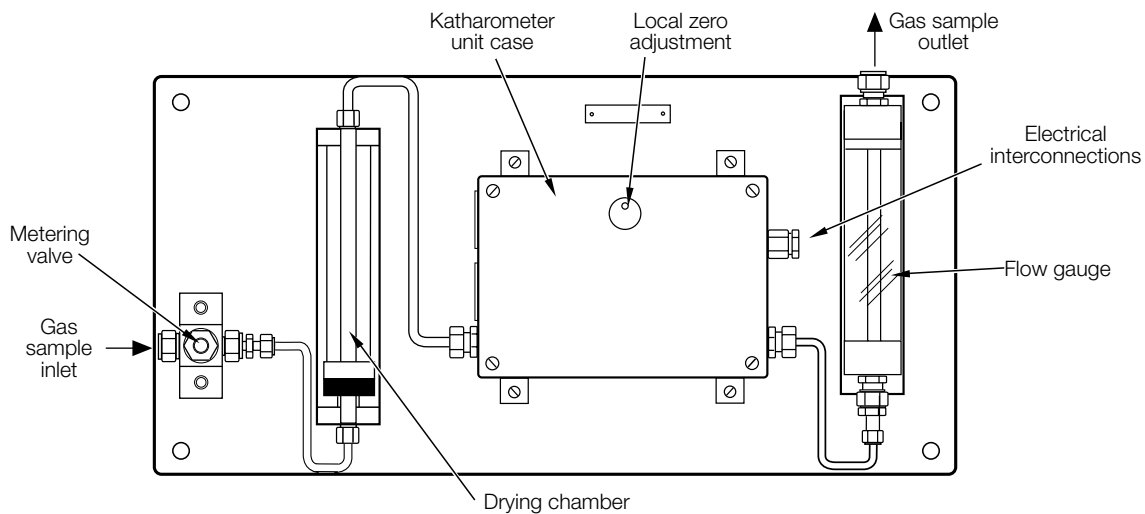

Fig. 2.2 Location of Items – Model 6540 203 and 6548 000 Katharometer Analyzer Panels
2.2 Model 006540203 or 006548000 Katharometer Analyzer Panel – Fig. 2.2